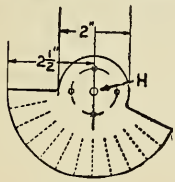
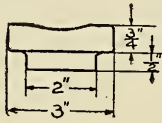

FIG. 72
FIG. 73
Now cut from some 1-32-inch spring brass a piece as shown in Fig. 72 and slit it as indicated by the dotted lines. Obtain a  $\frac{3}{8}$ -inch brass bolt  $1\frac{1}{2}$  inches long, put it through the hole (H) and solder. Now make a small wooden handle as shown in Fig. 73. The fan-shaped piece of brass can now be fastened to the handle with